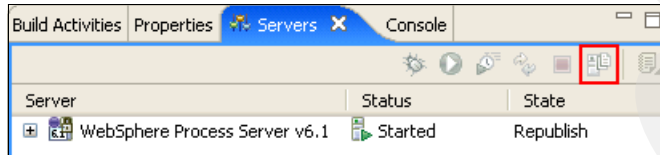

Figure A-3 Republish WebSphere Process Server
7. Click the **Servers** tab and select **WebSphere Process Server 6.1**. Click the **Publish to the server** icon to publish your changes to the server (Figure A-3).